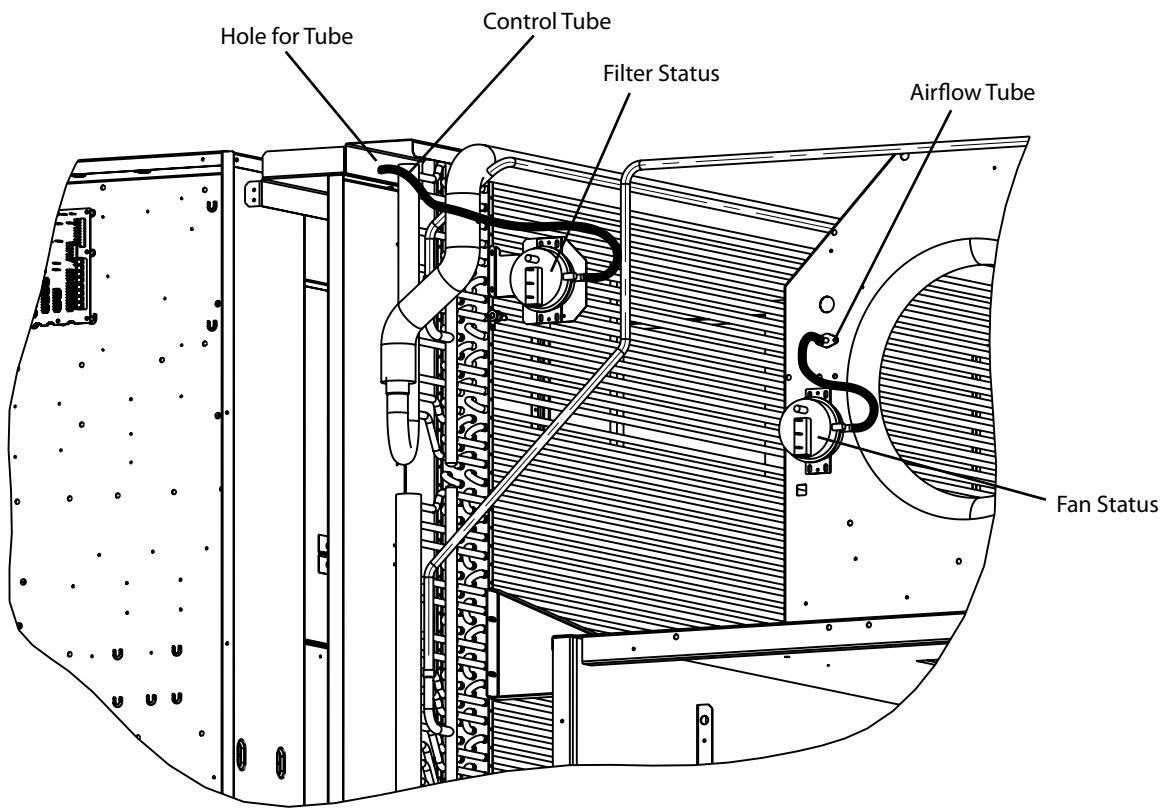

Fig. 1 — Fan/Filter Status Switch
3. Mount the switch (HK06WC027) on the fan housing in the fan section as shown in Fig. 1, using the #10 screws provided.
NOTE: The arrow of the pick-up tube should point down as shown in Fig. 1.
2. Mount the switch (HK06WC0039) on the fan bracket and screw assembly into coil tube sheet as shown in Fig. 1, using the #10 screws provided.
3. Insert tube over barbed port (+) and route the other end through hole in the sheet metal bracket as shown in Fig. 1.